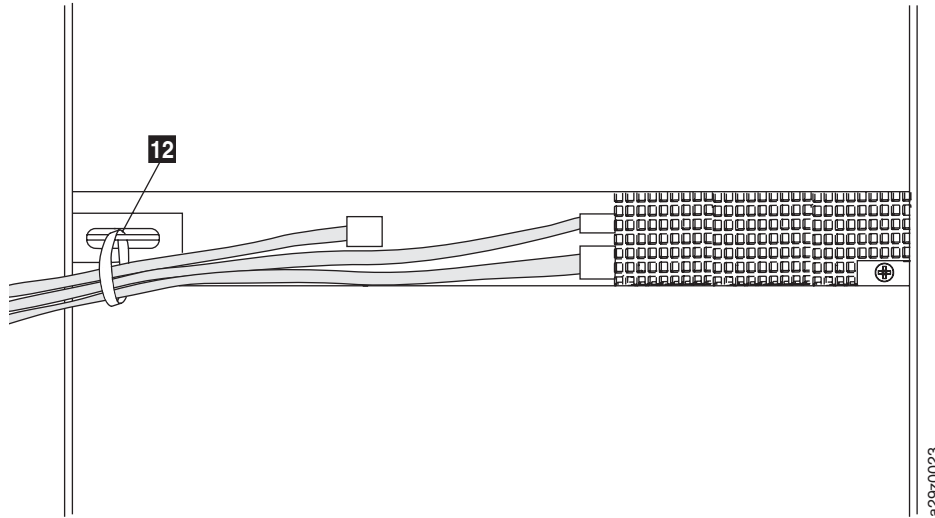

Figure 3-13. The cables at the rear of the library
- Run the SAS cable, power cable, and Ethernet cable through the hook and loop fastener strap **12**, leaving enough slack to reach the corresponding connectors, then tighten the strap (Figure 3-13).